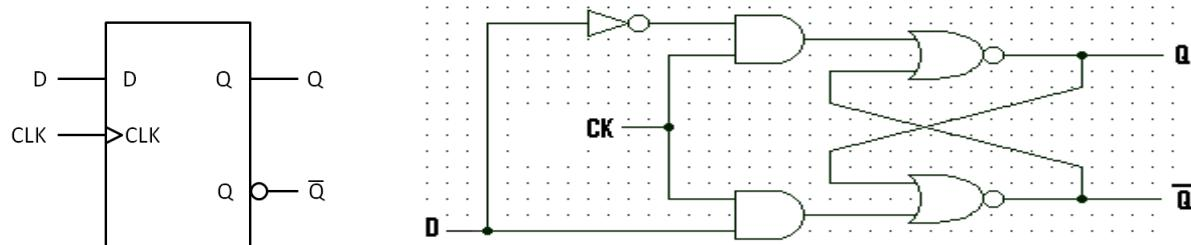

Fig 12.1: (a) logic symbol of D-flip flop
A clocked RS flip flop can be used to store a bit, but it needs proper logical states, and S and R inputs. In other words to store a bit, data must be supplied to on two lines via R and S. Another difficulty is that, whenever both R and S become high, an uncertain condition about the output state can occur. Such clocked flip flop can be modified to better version called as D-type flip flop. This flip flop possesses only one data input. Fig 12.1 (a & b) shows the logical symbol and logic diagram of flip flop.
As seen from the Fig 12.1, an inverter is introduced between S and R inputs. With this arrangement, S and R can never become 1 at the same time. Thus the forbidden condition can be avoided. The operation is such that Q will be same as D while CK is high, and Q will remain latched when CK goes low(latched means that Q will remain constant regardless of changes in D).
- Carry out the circuits of Fig 12.1 by using IC 74LS75